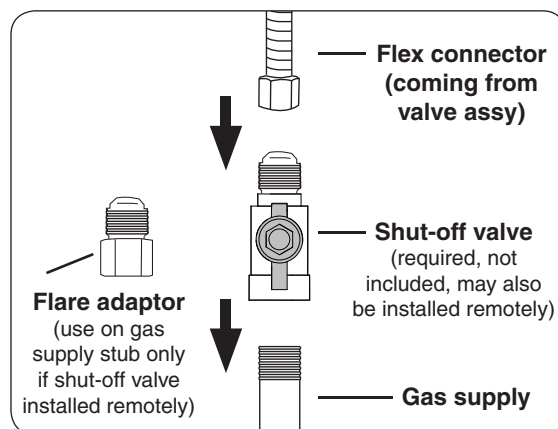

Fig. 22-3 Connecting to a gas line
- Connect the flex connector to the shut-off valve (see Fig. 22-3). Tighten securely.
- Install the supplied flare adapter to the gas supply using a pipe joint compound resistant to all gasses (see Fig. 22-3). Tighten securely.
- Connect the flex connector to the flare adapter (see Fig. 22-3). Tighten securely.